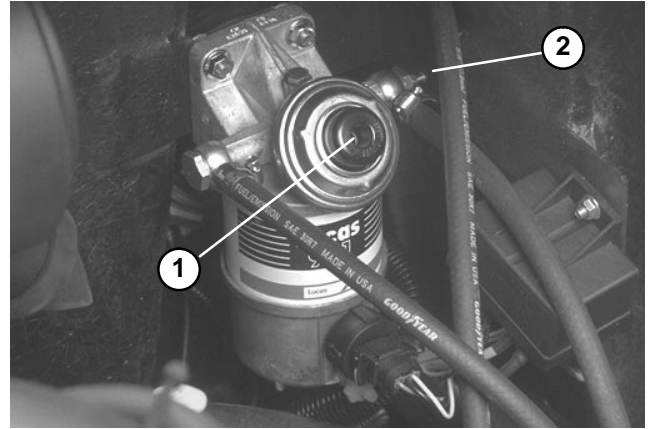

Figure 28
3. Loosen fuel filter / water separator bleed screw (Fig. 28) a few turns. Pump priming plunger until a steady stream of fuel comes out of hole in bleed screw. When fuel stops foaming, tighten the bleed screw during the downstroke of the priming plunger. Wipe up any spilled fuel.